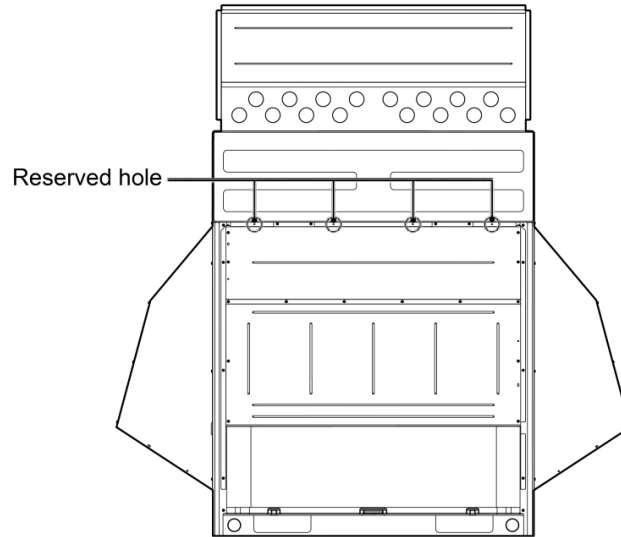

Fig. 3.38
(2) Reserve the locating hole as is shown in Fig 3.38. Drill 4 screw holes on the side plate of the unit with the drill  $\Phi 3.8$ , please pay attention to the drilling depth to avoid damaging the components nearby, otherwise, the unit might lose efficacy. Fix it with 4 screws.